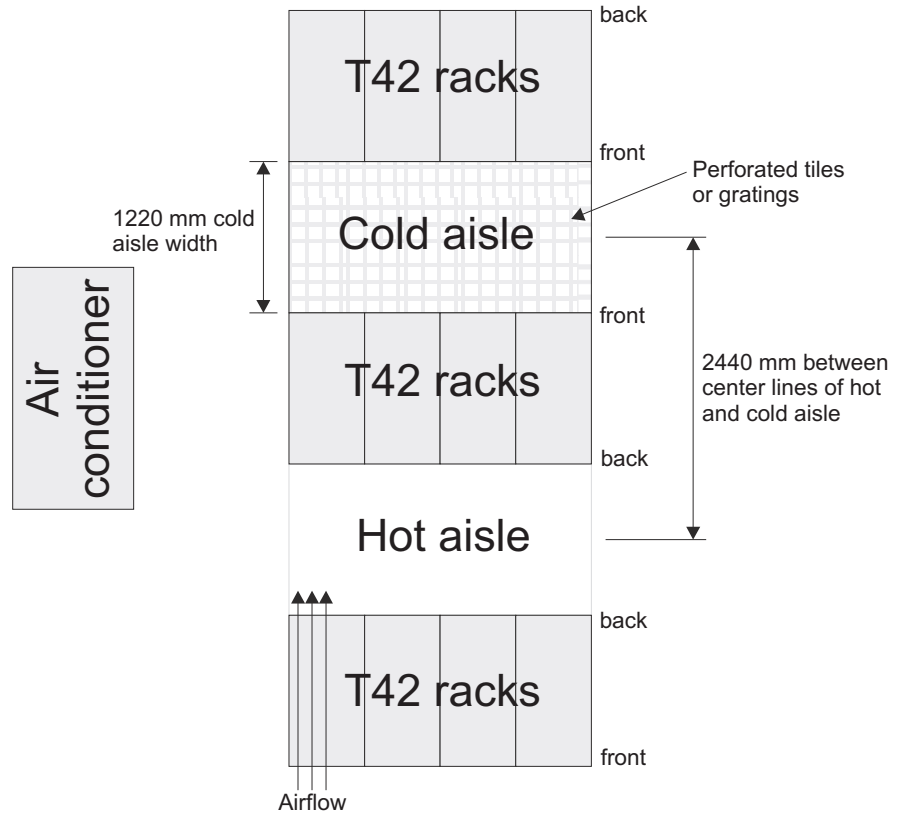

Figure 16. Example of cold aisle/hot aisle rack configuration
- Air enters at the front of the rack and leaves at the back. To prevent the air that is leaving the rack from entering the intake of another piece of equipment, you must position the racks in alternate rows, back-to-back and front-to-front. This arrangement is known as “cold aisle/hot aisle” and is shown in Figure 16 on page 29.